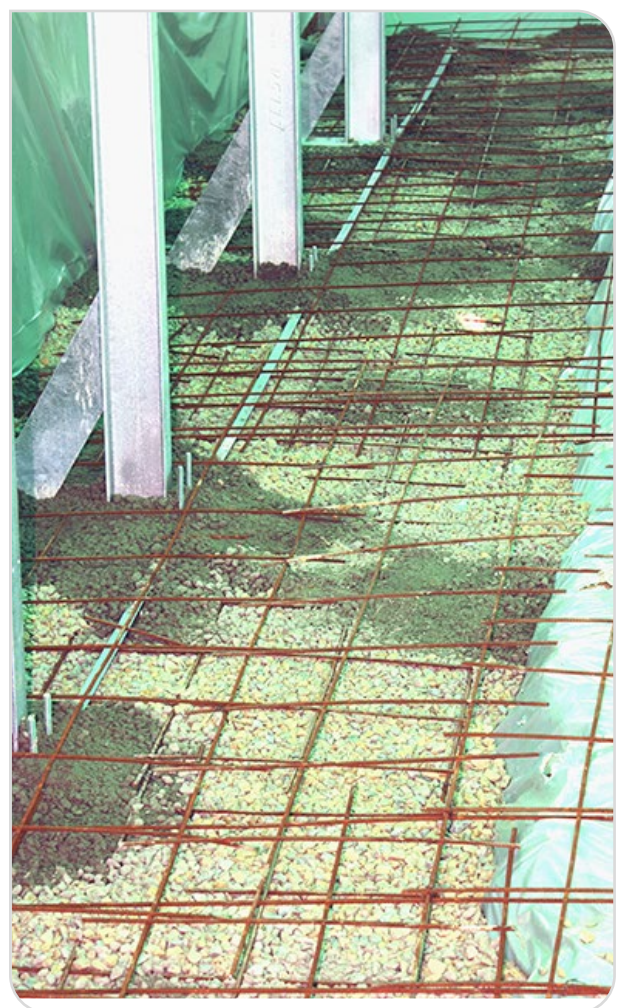

Figure 10 – Trimming around the posts
- ! Encase the base of the metal posts with a small amount of concrete before pouring the rest of the slab, this will help prevent deformation of the metallic structure (*Figure 10*).
Once laid, the metal trellis should cover the whole surface (lay the trellis such that it is set 3 to 5 cm back from the edge around the entire periphery). Some cutting around the posts will be necessary (*Figure 10*). The trellis should be allowed to overlap and should be connected together.